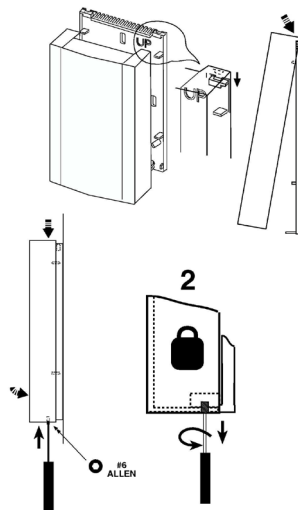

FIGURE 3
6. Fasten the cover to the mounted section. Hook the cover to the base as shown in Figure 3.